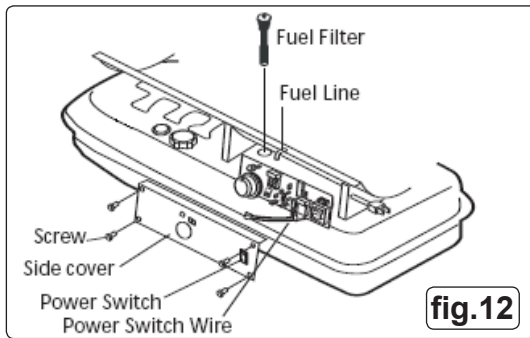

fig.12
- 6.5. Fuel filter.** The fuel filter (fig.12) should be cleaned twice per season, unless contamination occurs where it will require cleaning immediately. To clean the filter, remove and wash in paraffin.